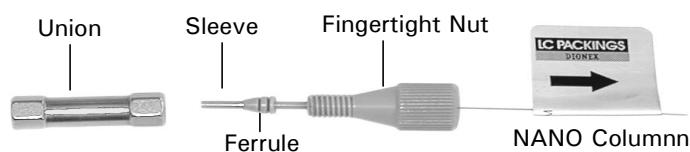

FIGURE G-1 Parts of a PEEK sleeve connection
The PEEK sleeve connection is created using the components shown in FIGURE G-1:
- The female fitting port of the inert valve (FIGURE G-1 shows a stainless steel union, which is used only for the assembly of the connection).
- a) Slide the fingertight nut and the ferrule onto the sleeve as shown in FIGURE G-1.